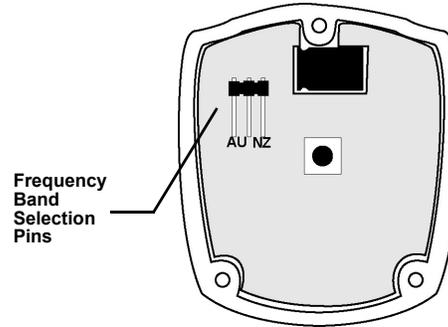

Figure 5 EN1223SK Internal View
3. Place a selection jumper on the appropriate frequency band selection pins (figure 5).